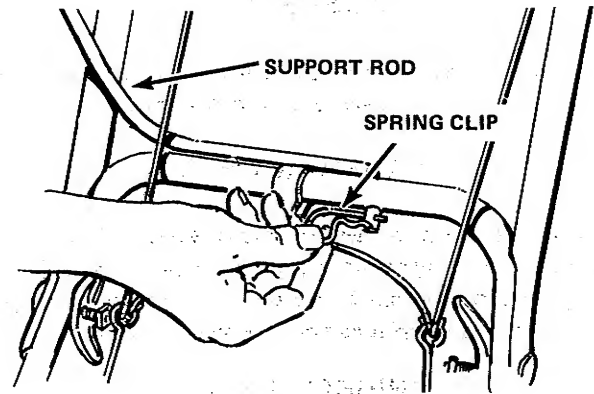

FIGURE 17
6. Insert the two legs of the bag support rod into the holes in the handle lower cross-bar. Install the spring clip securely in the left leg. (See Figure 17).